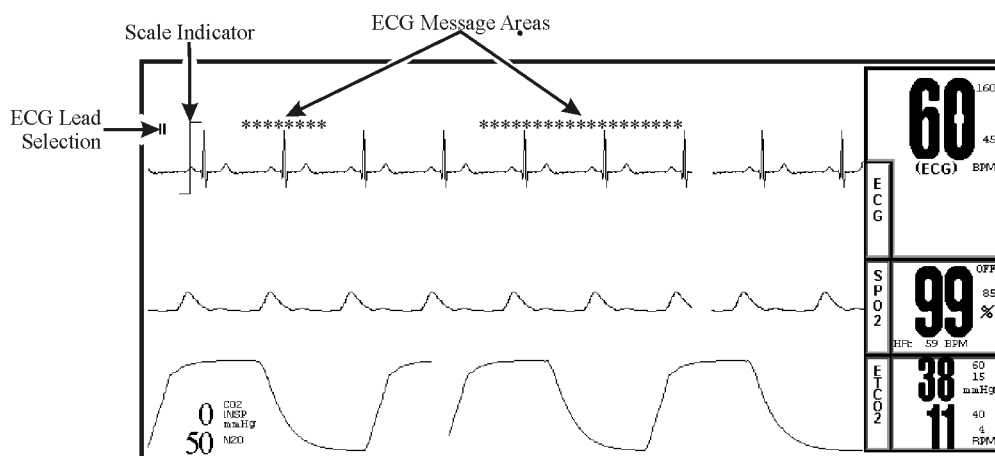

Figure 1-8. The Vital Signs Trace Display
- b. **Vital Signs Trace Display.** (See Figure 1-8) The Vital Signs Trace Display is located in the middle of the Display Screen. This Display provides the operator with a trace of the selected parameters and also contains Numerical Vital Sign indications for the selected patient parameter.
- (1) The Vital Signs Trace Display portion of the screen is divided into six separate trace areas. When turned on, the traces are fixed on the screen and updated with an Erase Bar. When a trace has been turned off, that portion of the screen is blank. The numeric values for each trace appear near the right screen boundary.
- (2) If the value is greater than or equal to a maximum calculable value, “OVR” (Over Range) is alternately displayed with the numeric value.
- (3) TRACE A, C and D are assigned according to parameter and come on/go off as parameters are turned on or off. Trace B is the location used for the “Freezing” of a waveform and is not assigned a parameter.